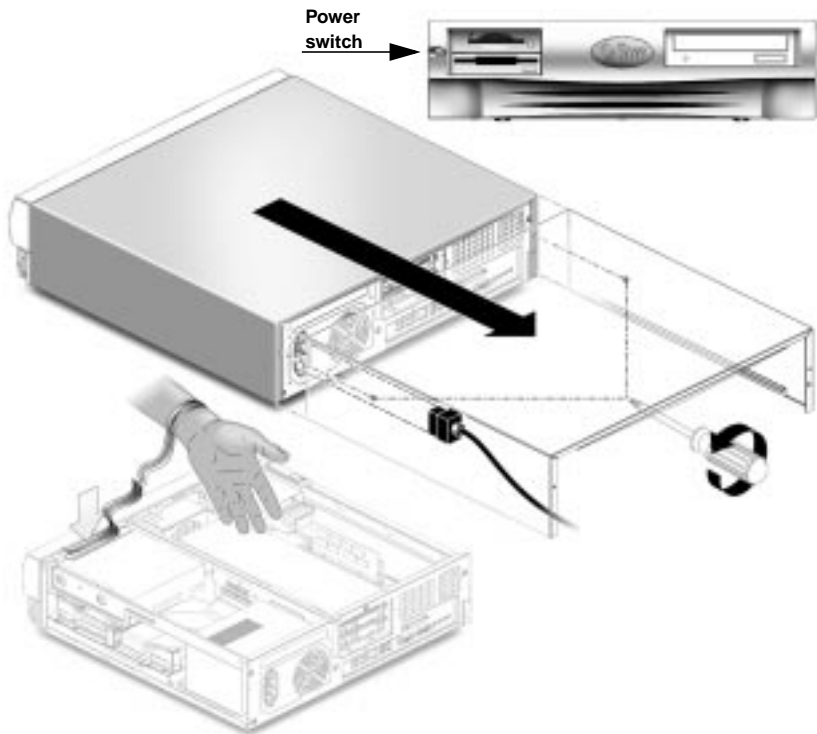

Figure 1-2 Preparing for DIMM Installation
- a. Press the power switch and immediately release it (Figure 1-2).
4. **Slide the cover back to the end of the system chassis and lift the cover off (Figure 1-2).**
3. Attach the copper foil end of the wrist strap to the system chassis to provide a ground for electrostatic discharge (Figure 1-2).